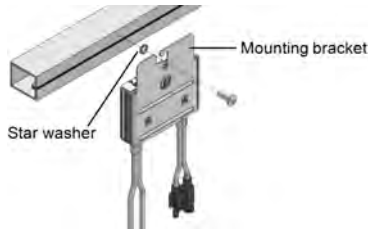

Figure 5: Power optimizer installation and grounding using a star washer
1. Determine the power optimizer mounting location and use the power optimizer mounting brackets to attach the power optimizer to the support structure (See *Figure 5*). It is recommended to mount the power optimizer in a location protected from direct sunlight. For frame-mounted power optimizers follow the instructions supplied with the optimizers, or refer to [https://www.solaredge.com/sites/default/files/installing\\_frame\\_mounted\\_power\\_optimizers.pdf](https://www.solaredge.com/sites/default/files/installing_frame_mounted_power_optimizers.pdf).